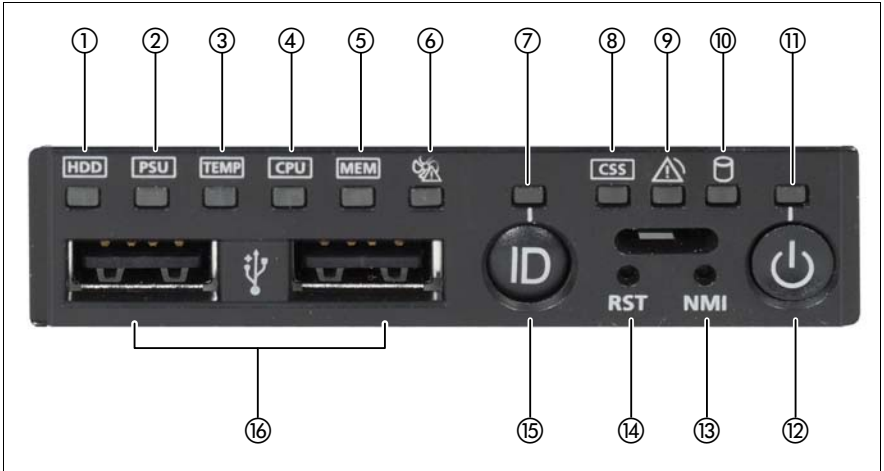

Figure 13: Front side (indicators and controls)
The power-on indicator (item 11 in figure 13 on page 65) lights orange.
- ▶ Press the On/Off button (item 12 in figure 13 on page 65).
The power-on indicator lights green (item 11 in figure 13 on page 65).